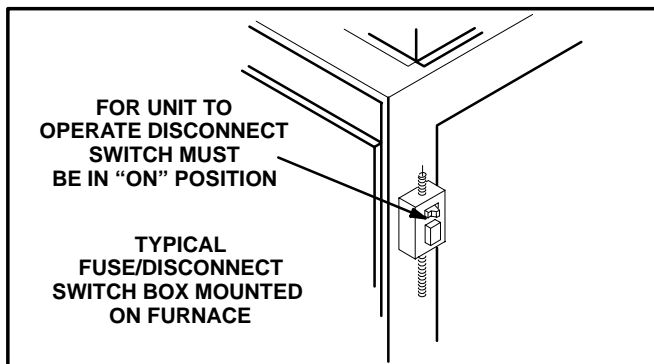

FIGURE 4
- 2- Turn off all electrical power to furnace. See figure 4.
- 6- Wait five (5) minutes to clear out any gas. Smell for gas, including near the floor. If you then smell gas, STOP! Immediately call your gas supplier from a neighbor's phone. Follow the gas supplier's instructions. If you do not smell gas go to next step.
- 2- Turn off all electrical power to unit if service is to be performed. See figure 4.